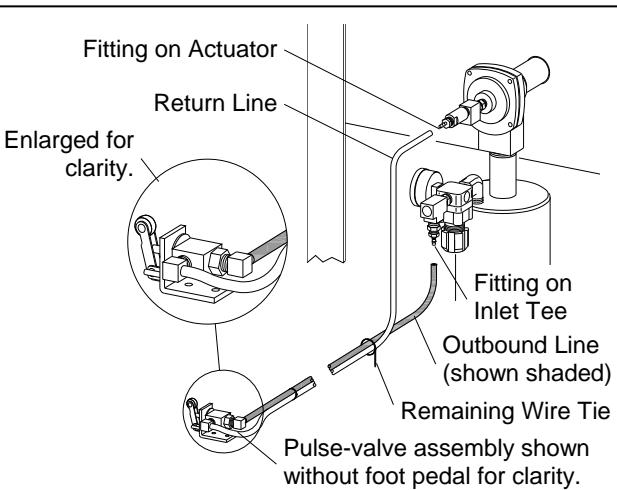

Figure 21
4.3.8 Refer to Figure 21 and connect the foot-pedal pulse tubing.